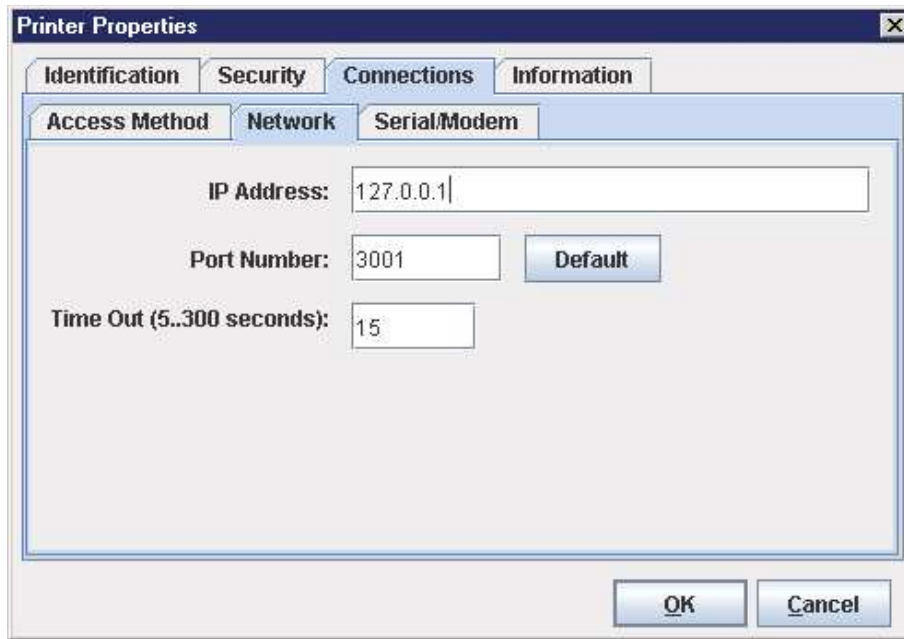

Figure 5 Printer Properties: Connections Tab – Network Sub-Tab
10. Click the **IP Address** field and then type the IP Address of the printer you want to access. Follow the format shown in Figure 5.